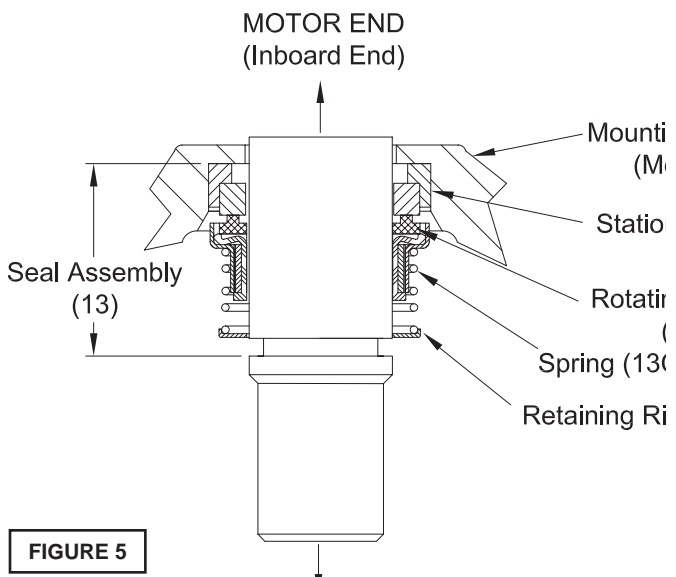
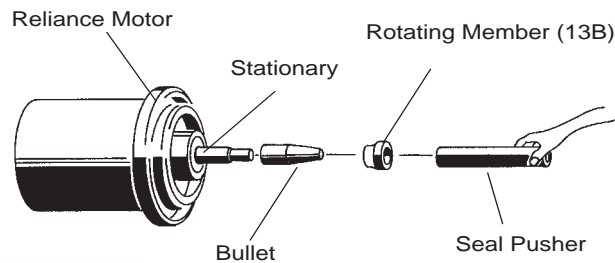

FIGURE 5
FIGURE 7
To expose outer shaft seal (13) for examination, remove Impeller and Volute per Section F-1.1. To disassemble adapter (11) and gasket (12) from motor (2), remove socket head cap screws (18) and lockwashers (4). Set motor assembly (2) in the up position to prevent loss of oil. Remove snap ring from motor shaft, then retaining ring (13D), spring (13C) and rotating member (13B) from shaft. See Figure 5 Examine all seal parts and especially contact faces. Inspect seal for signs of wear such as uneven wear pattern on stationary members, chips and scratches on either seal face. **DO NOT** interchange seal components, replace the entire shaft seal (13). If replacing seal, remove stationary (13A) from mounting plate by prying out with flat screw driver.
Make sure the stationary member is in straight and that the rubber ring is not out of its groove. Lightly oil (**DO NOT use grease**) shaft and inner surface of bellows on rotating member (13B) see Figure 7. With lapped surface of rotating member (13B) facing inward toward stationary member (13A), slide rotating member (13B) onto shaft using a seal pusher, until lapped faces of (13A) and (13B) are together. (see Figure 5).